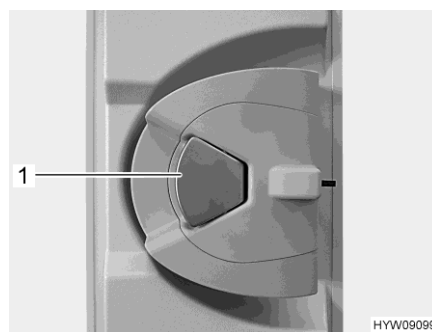

Fig. 54 Door lock (living area door, inside)
- When the door lock is locked: Pull once at the door handle (Fig. 54,1). The door is unlocked.
- Pull on the door handle (Fig. 54,1). The door is open.
- Push the door handle (Fig. 54,1).